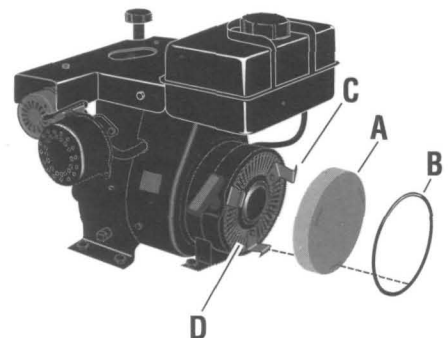

Figure 5-4: Air intake debris guard (A), wire hoop (B), clips (C) and air intake screen (D).
To ensure adequate cooling of the engine, air must be able to circulate freely through the air intake screen debris guard (A, Figure 5-4).
2. The debris guard is held in place by a wire hoop (B, Figure 5-4) and three clips (C).
6. Before reinstalling the debris guard, remove any chaff, dirt or debris from the air intake screen (D).